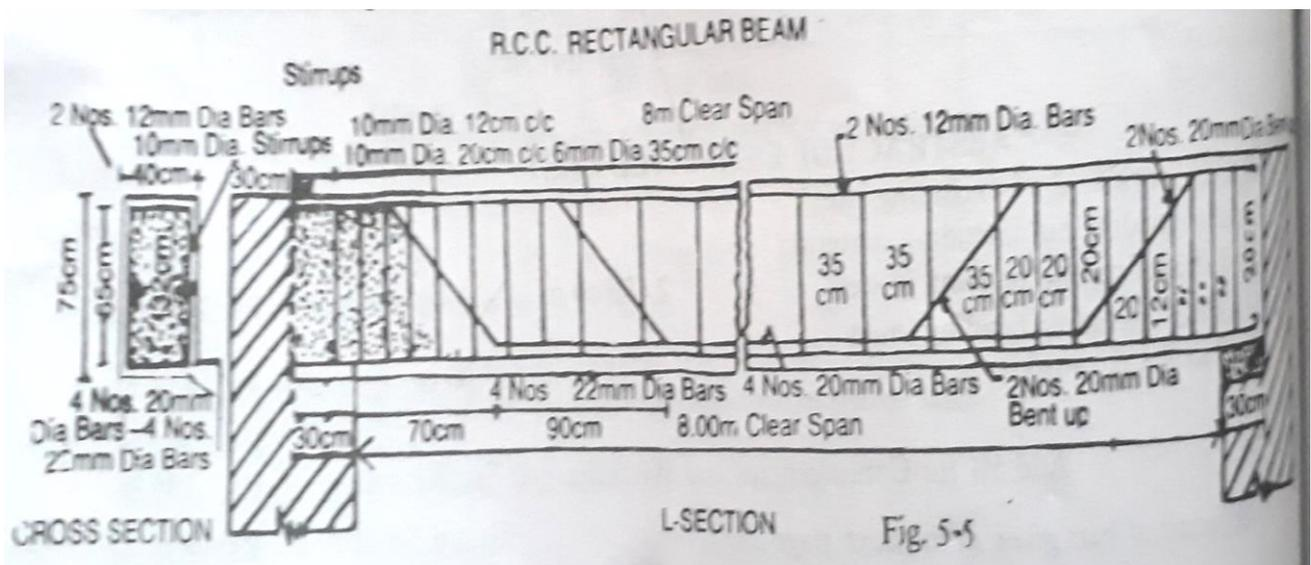

Fig. 4.
8. Prepare a detailed estimate of R.C.C. Beam given in Fig. 4. 14M